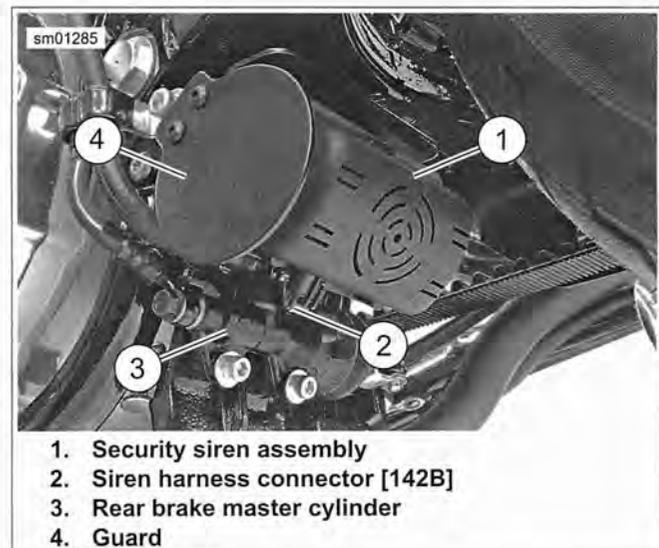

Figure 6-126. Security Siren
1. See Figure 6-126. Disarm security system. While system is disarmed, unplug siren harness connector [142B] (2) from siren assembly (1).
2. Slide siren housing toward the right side of the vehicle until tabs (2) lock siren in place.
3. See Figure 6-126. Plug harness connector [142B] (2) into siren connector socket [142A].